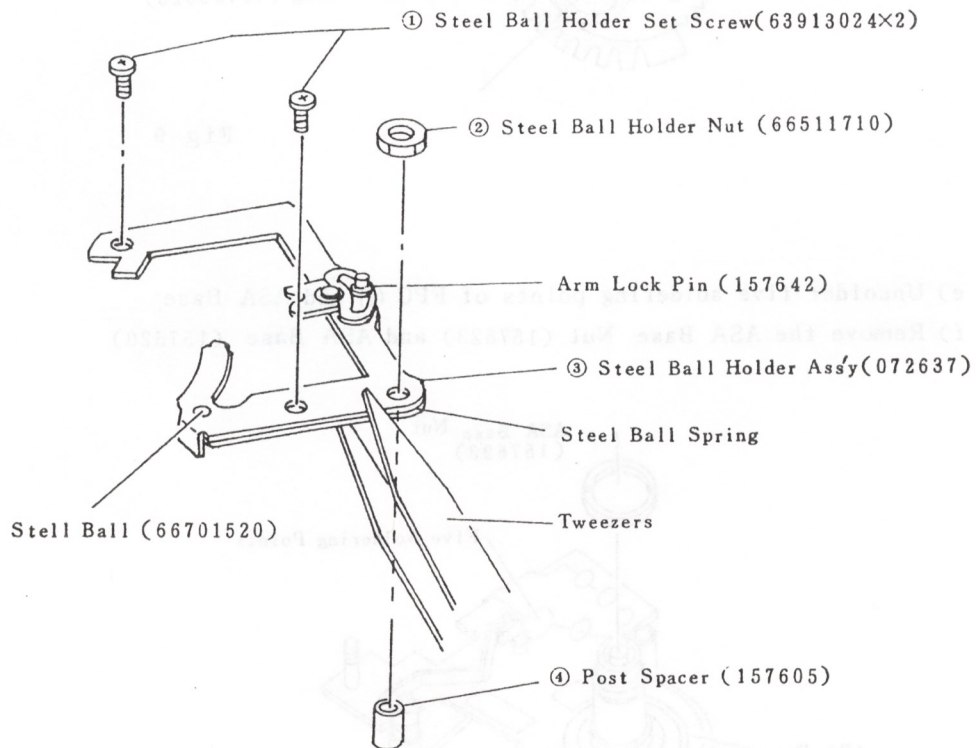

Fig 8
(5) Remove the ASA Base and S.Base Plate.
- a) Remove ① two Steel Ball Holder Assy Set Screws (63913024×2) and ② Steel Ball Holder Nut (66511710).
- b) ③ Steel Ball Holder Assy (072637), will be removed together with Steel Ball Spring (157636), Steel Ball (66701520) and Arm Lock Pin (157642) with the Tweezers as shown in (Fig 8).